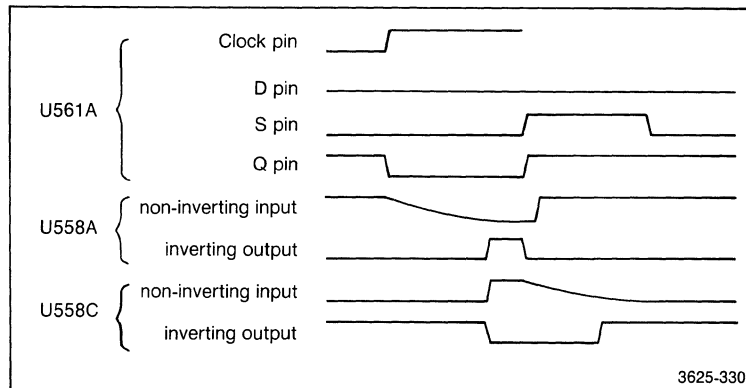

Figure 4-34. 91A08 even write-enable timing diagram.
Data must be clocked into the even acquisition memory at the same rate it is clocked out of the even register. However, because of propagation delays and set up times, the same clock cannot be used for both purposes. The even write-enable generator generates a new clock from EVEN CLK(H) to be used by the even acquisition memory. The output of the write-enable generator has two special characteristics: its rising edge is delayed for a specified time after the rising edge of the EVEN CLK(H), and the pulse is high for a specified period of time independent of EVEN CLK(H). Figure 4-34 shows a timing diagram for one cycle of the write-enable generator.
This ends the EVEN WE(L) pulse, and writes a low to the set pin of U561A, so the next clock pulse can be accepted. Refer to Figure 4-34 for a timing diagram of the generation of a WE(L) pulse.